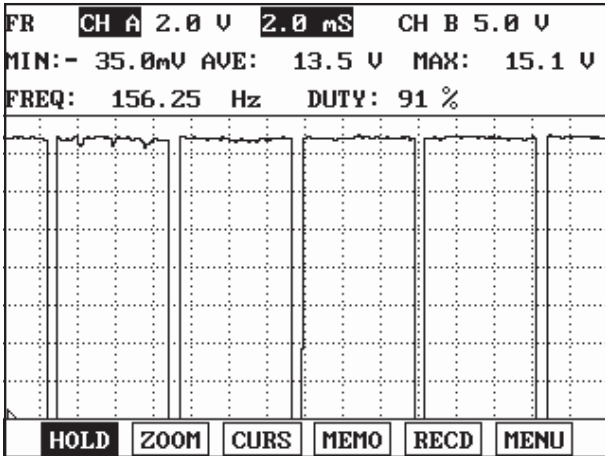

Fig.1
- Fig.1) Approx. 10% duty(-)duty) signal waveform of EEGR actuator (with EEGR valve closed)